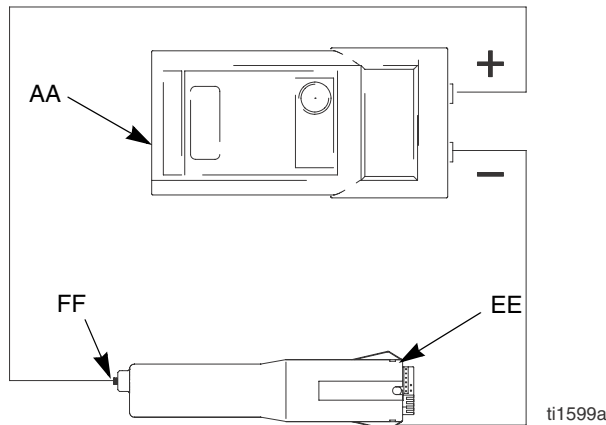

Fig. 11. Test Power Supply Resistance
1. Remove the power supply (18), page 31.
2. Remove the turbine alternator (19) from the power supply, page 32.
3. Measure resistance from the power supply's ground strips (EE) to the conductive contact in the center of the power supply seal (FF). See FIG. 11.